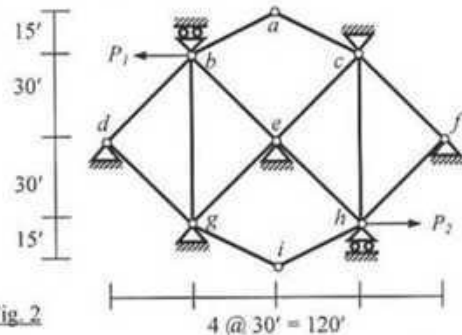

Fig. 2
2. Use Stiffness Method (neglecting axial deformations) to calculate the joint deflection and rotation of the beam shown in *Fig. 2* [Given,  $EI = 40 \times 10^3 \text{ k-ft}^2$ ,  $EI_{AB} = 2EI_{BCD}$ ].
2. Fig. 2 shows a plane truss whose joints *b* and *h* deflect 0.50' to left and right respectively due to the forces applied.